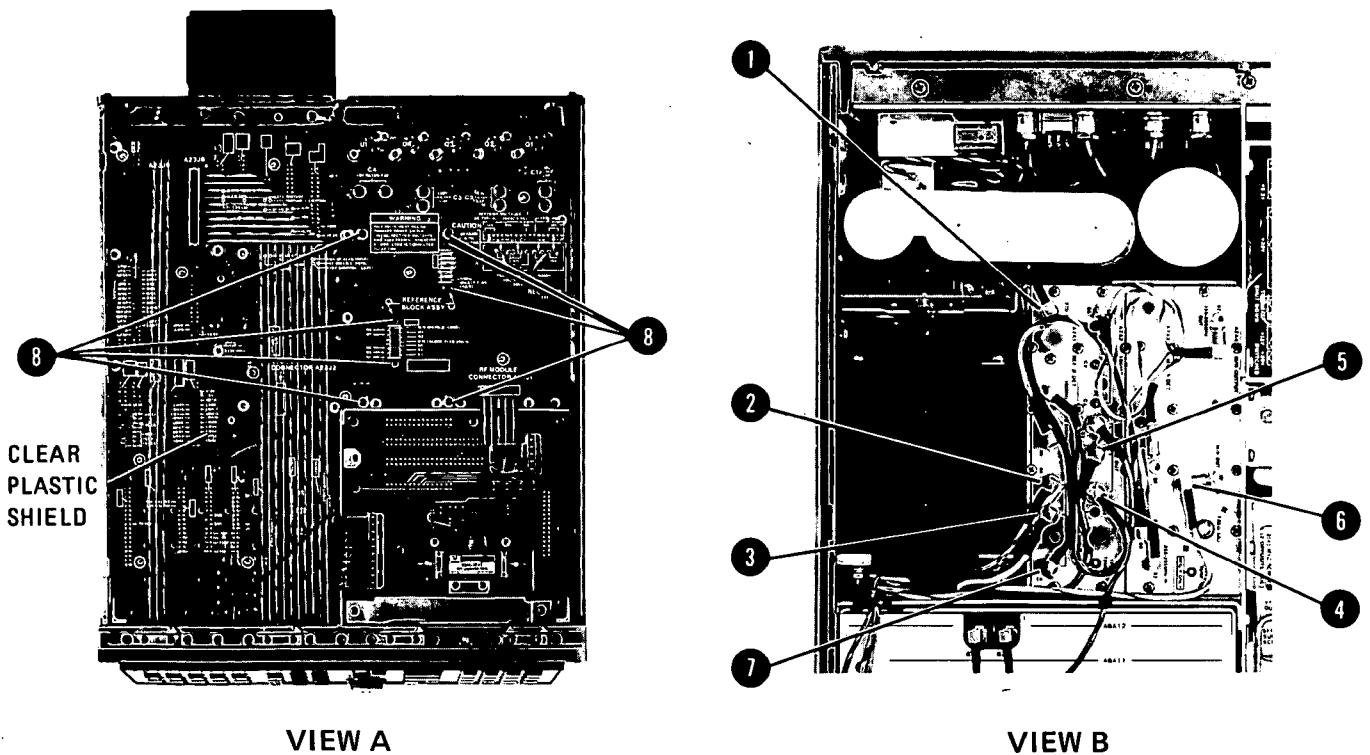

FIGURE 1. A7 M/N REFERENCE REMOVAL AND INSTALLATION
For location of hardware and cables referred to in this procedure, see Figure 1.
- 80 (gray/black) cable (A7A1J1, STD IN) (1)
- 86 (gray/blue) cable (A7A1J4, 10 MHz OUT) (2)
- 9 (white) cable (A7A1J5, 10 MHz OUT) (3)
- 85 (gray/green) cable (A7A2J4, 100 MHz OUT) (4)
- 8 (gray) cable (A7A2J3, 100 MHz OUT) (5)
- 93 (white/orange) cable (A7A4J2, M/N OUT) (6)
- 6 (blue) cable (A7A1J6, 10 MHz OUT) (7)
3. Remove clear plastic shield from motherboard (Figure 1, VIEW A) by removing all nylon screws. Remove eight screws (8) from the motherboard (refer to View A). Note: Screws are marked on motherboard with the letter "B" for easy identification.